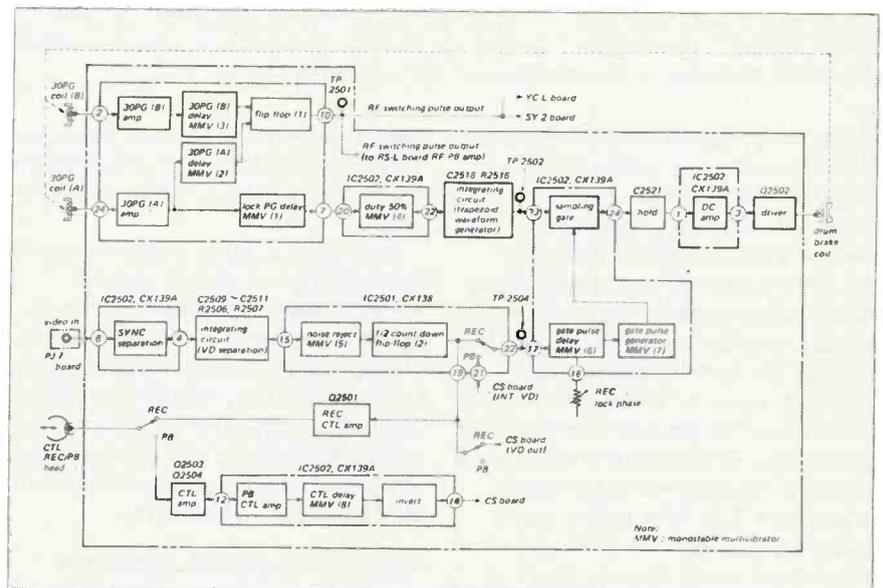

Fig. 17 The servo circuit block diagram
The pulse generated by the 30 PG (A) coil is amplified by the 30 PG (A) amplifier, see Figure 17, and from there to both the lock PG delay multivibrator and delay MMV2. Both delay multivibrators are one shots, toggled by the 30 PG (A) pulse and both produce rectangular shaped output pulses. The output from (monostable multivibrator) MMV1 toggles a second one shot, MMV4, which squares the signal into a 50% duty cycle waveform. The output from MMV4 is passed through an